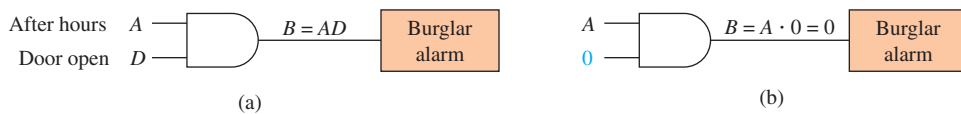

Figure 14 (a) Logic circuit for a simple burglar alarm: (b) disabling the burglar alarm by making $D = 0$.
A bank burglar alarm (B) will activate if it is after banking hours (A) and someone opens the front door (D). The logic level of the variable A is 1 after banking hours and 0 during banking hours. Also, the logic level of the variable D is 1 if the door sensing switch is opened and 0 if the door sensing switch is closed. The Boolean equation is, therefore, $B = AD$. The logic circuit to implement this function is shown in Figure 14(a).
Later, a burglar comes along and puts tape on the door sensing switch, holding it closed so that it always puts out a 0 logic level. Now the Boolean equation ($B = AD$) becomes $B = A \cdot 0$ because the door sensing switch is always 0. The alarm will never sound in this condition because one input to the AND gate is always 0. The burglar must have studied the Boolean rules and realized that anything ANDed with a 0 will output a 0, as shown in Figure 14(b).